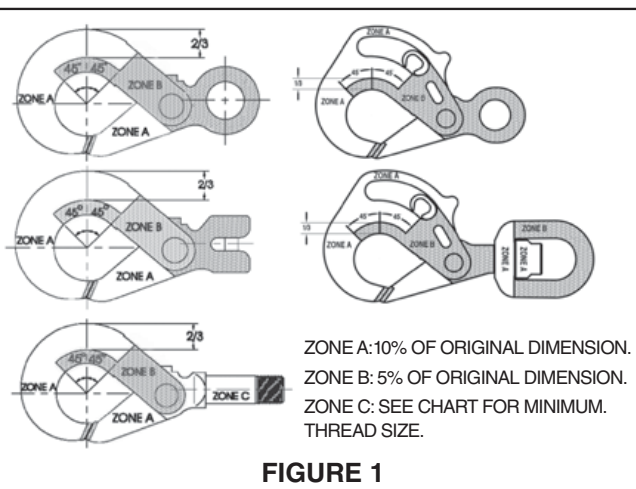

FIGURE 1
- Never use a hook that is worn beyond the limits shown in Figure 1.
- Remove from service any hook with a crack, nick, or gouge. Hooks with a nick, or gouge shall be repaired by grinding lengthwise, following the contour of the hook, provided that the reduced dimension is within the limits shown in Figure 1. Contact Crosby Engineering to evaluate any crack.